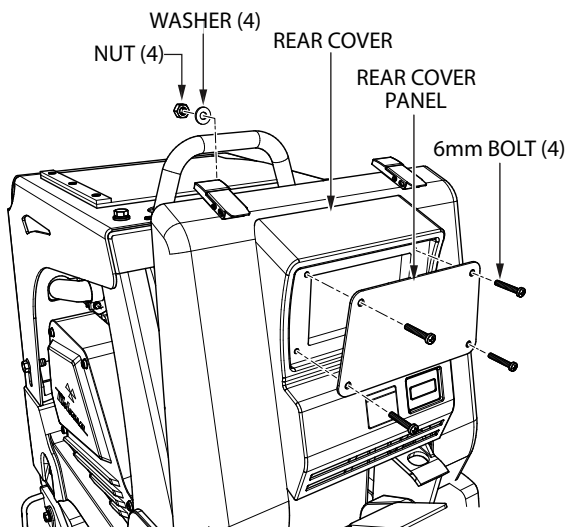

Figure 32. Rear Cover Panel Removal
- Remove the four 6 mm bolts and washers securing the rear cover panel to the rear cover, and set them aside (Figure 32). Discard the rear cover panel.